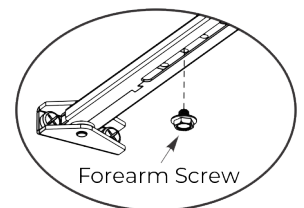

Figure 24
5. While holding arm in position, secure rod to adjusting tube with forearm screw. (Figure 24)